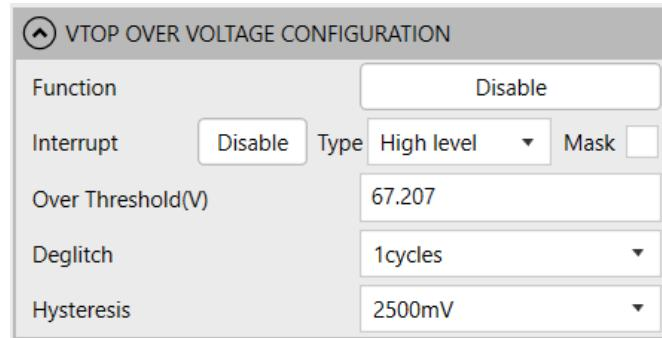

Figure 27: VTOP OV Configuration
22. Figure 27 shows how to configure the VTOP OV parameters.